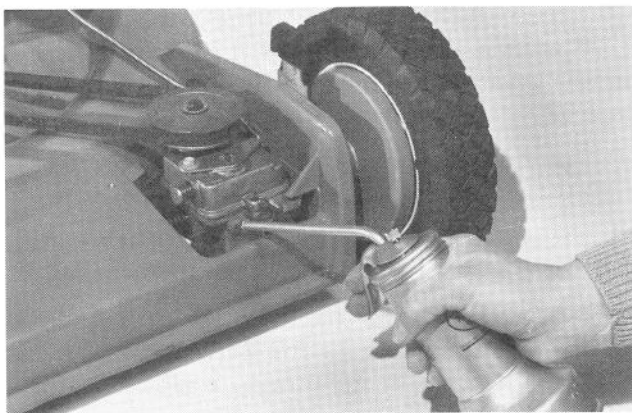

Figure 33
4. Add gear oil to gear case through oil level check hole until gear oil leaks out when gear case is level (Fig. 33).